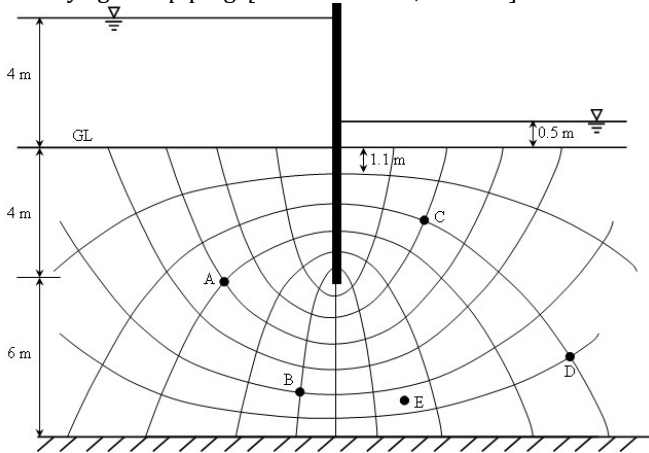

Fig.2
- (c) A single row of sheet piles (as shown in figure 2) is driven up to a depth of 4 m in a bed of clean sand having a co-efficient of permeability of 0.002 cm/sec. An impermeable layer of very stiff clay exists at a depth of 10 m below the GL. The sheet pile wall has to retain water upto 4 m above GL. The height of water level on the downstream side is 0.5 m. The length of the last element is 1.1 m. Determine the quantity of seepage loss considering unit width of the sheet piles, the piezometric heads at points A and C, factor of safety against piping. [Given:  $G = 2.67$ ,  $e = 0.95$ ].